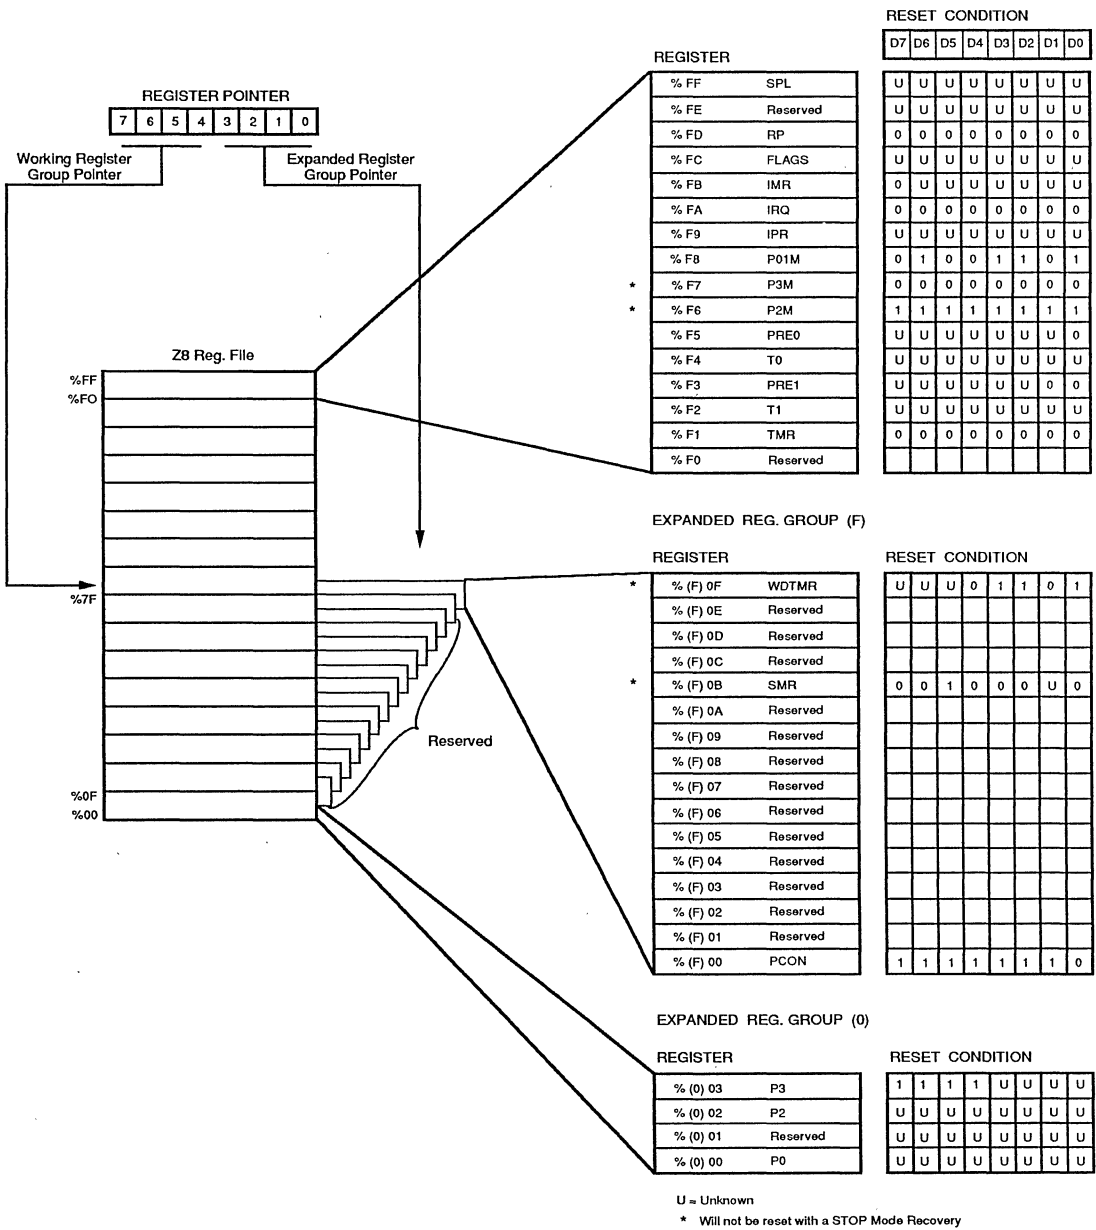
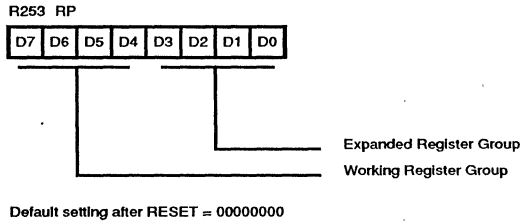

Figure 9. Expanded Register File Architecture
Figure 10. Register Pointer Register
Expanded Register File. The register file has been expanded to allow for additional system control registers, mapping of additional peripheral devices, and input/output ports into the register address area. The Z8 register address space R0 through R15 is implemented as 16 groups of 16 registers per group (Figure 9). These register groups are known as the ERF (Expanded Register File). The low nibble (D0-D3) of the Register Pointer (RP) selects the active ERF group, and the high nibble (D4-D7) of register RP selects the working register group (Figure 10).
Register File. The 256 byte register file consists of 3 I/O port registers, 236 general-purpose registers, and 15 control and status registers (R3 and R240 are reserved), and three system configuration registers in the expanded register group (Figure 9). The instructions can access registers directly or indirectly via an 8-bit address field. This allows a short 4-bit register address using the Register Pointer (Figures 10, 11). In the 4-bit mode, the register file is divided into 16 working register groups, each occupying 16 continuous locations. The Register Pointer addresses the starting location of the active working-register group.